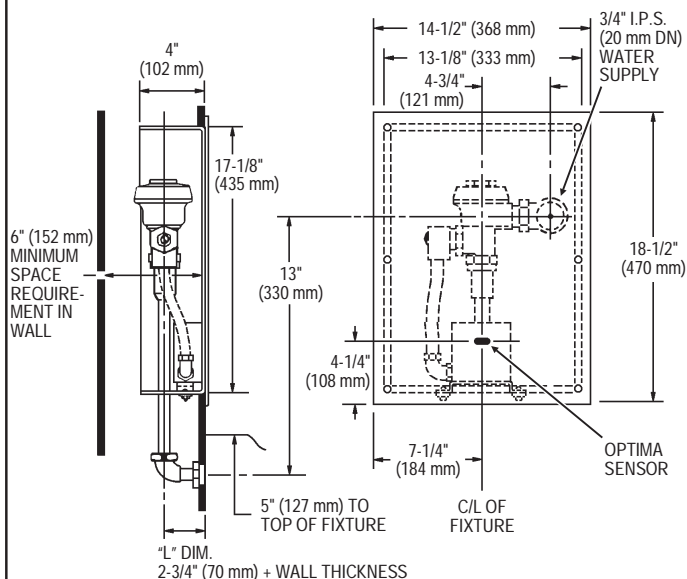

Figure 1 (Continued)
Prior to installing the Sloan OPTIMA equipped Flushometer with Wall Box, install the items listed below as illustrated in Figure 1.
SENSOR LOCATION (Figure 1)
Step 4 — Install Wall Box (Figure 1)
Install Wall Box in the exact location as illustrated in Figure 1. Secure Wall Box using Drive Screws provided or other appropriate fasteners.